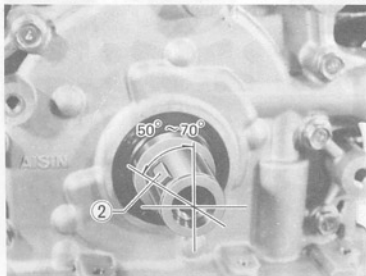

Fig. 4-129
Before installing the rocker-arm shaft on the head, be sure to locate the crankshaft keyway ② in the  $50^{\circ} - 70^{\circ}$  angular range, as shown in Fig. 4-129.